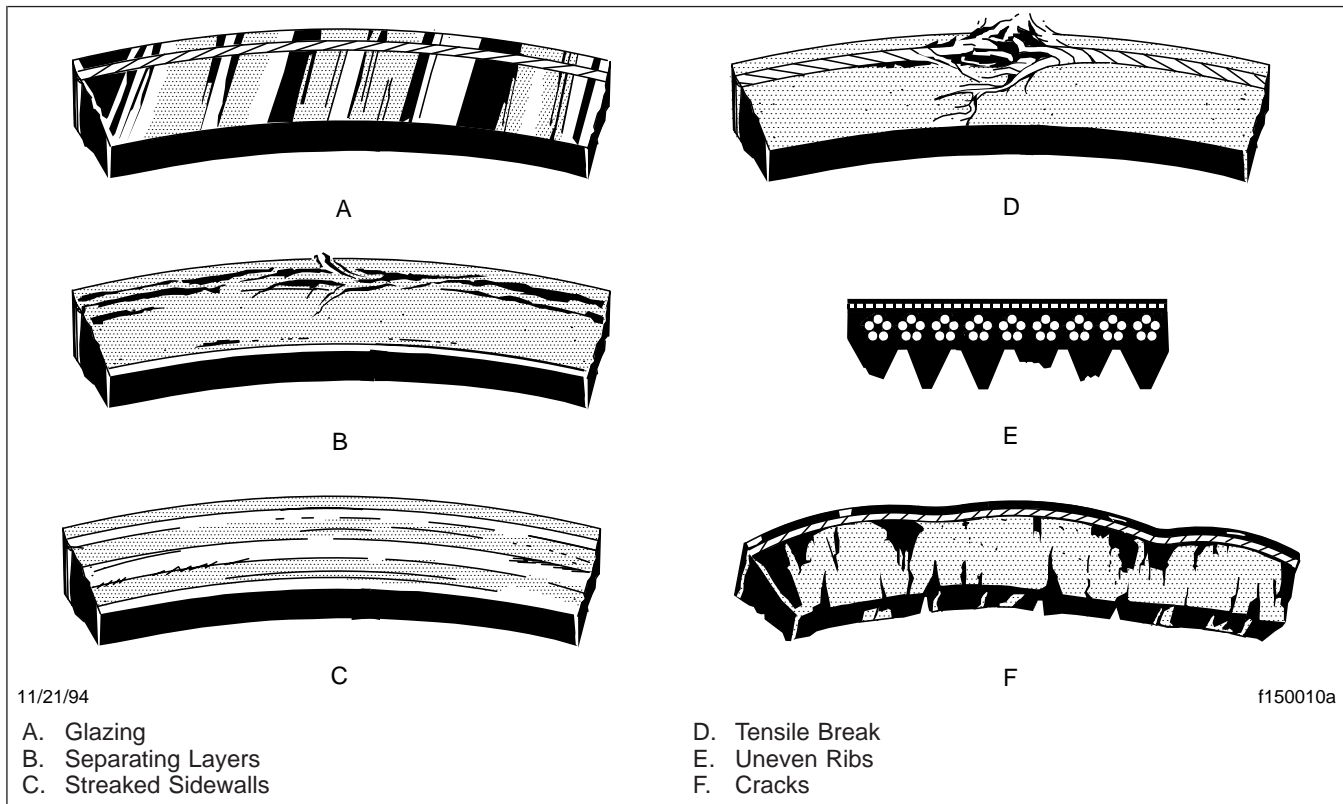

Fig. 2, Drive Belt Replacement Conditions
1. Inspect the belt for glazing. See **Fig. 2**, Ref. A. Glazing is indicated by shiny sidewalls, and is caused by friction created when a loose belt slips in the pulleys. It can also be caused by oil or grease contamination on the pulleys.
2. Check the belt for ply separation. See **Fig. 2**, Ref. B. Oil, grease, or belt dressing can cause the belt to fall apart in layers. Repair any oil or coolant leaks that are affecting the belts before replacing the drive belts. Do not use belt dressing on any belt.
3. Check the belt for a jagged or streaked sidewall. See **Fig. 2**, Ref. C. Jagged or streaked sidewalls are the result of foreign objects, such as sand or gravel in the pulley, or a rough pulley surface.
4. Check for tensile breaks (breaks in the cord body). See **Fig. 2**, Ref. D. Cuts in a belt are usually caused by foreign objects in the pulley, or by prying or forcing the belt during removal or installation.
5. Check for uneven ribs on serpentine (poly-V) belts. See **Fig. 2**, Ref. E. Foreign objects in the pulley will erode the undercord ribs, causing the belt to lose its gripping power.
6. Check the drive belts for cracks. See **Fig. 2**, Ref. F. Small irregular cracks are usually the signs of an old belt.